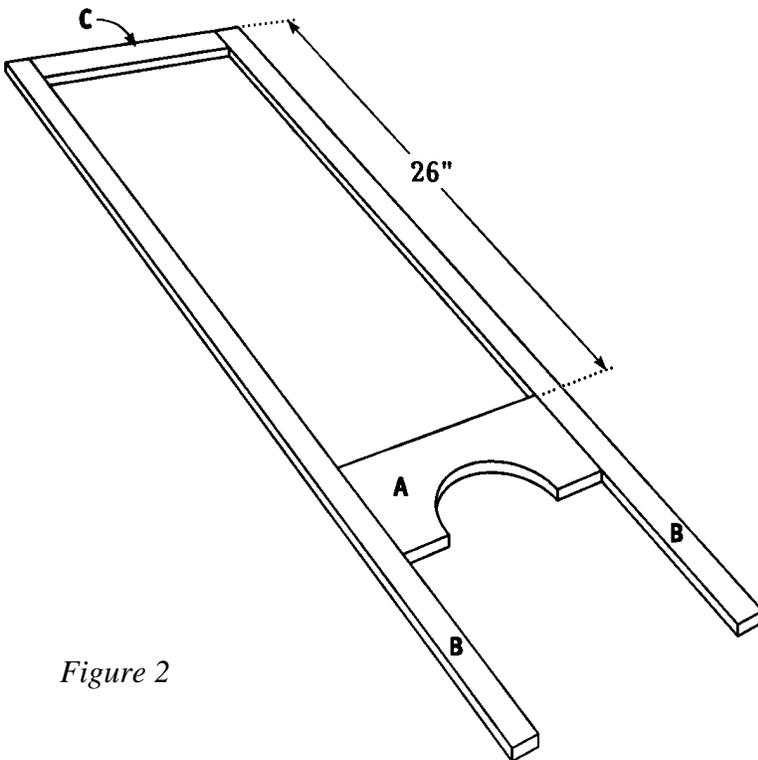

Figure 2
- Cut four Vertical Sides (B) from 1 x 2 pine, each measuring 43 inches.
- Cut two Upper Sides (C) from 1 x 2 pine, each measuring 11-1/4 inches.
- Place two Vertical Sides (B) on a level surface, parallel to each other and 11-1/4 inches apart. **Note:** because of the relatively thin wood used for this project, and the depth that the nail must penetrate, we strongly suggest that you pre-drill all of your nail holes to avoid splitting the
wood. Place one Upper Side (C) between the ends of the two Vertical Sides (B), as shown in *Figure 2*. Apply glue to the meeting surfaces, and nail through the Vertical Sides (B) into the ends of the Upper Side (C) using two 2-1/2" nails on each joint.
- Fit one Lower Side (A) between the same two Vertical Sides (B), 26 inches below the Upper Side (C), as shown in *Figure 2*. Apply glue to the meeting surfaces, and nail through the Vertical Sides (B) into the ends of the Lower Side (A) using two 2-1/2" nails on each joint.
- Repeat Steps 5 and 6 to construct another cage side using the remaining Lower Side (A), two Vertical Sides (B) and Upper Side (C).